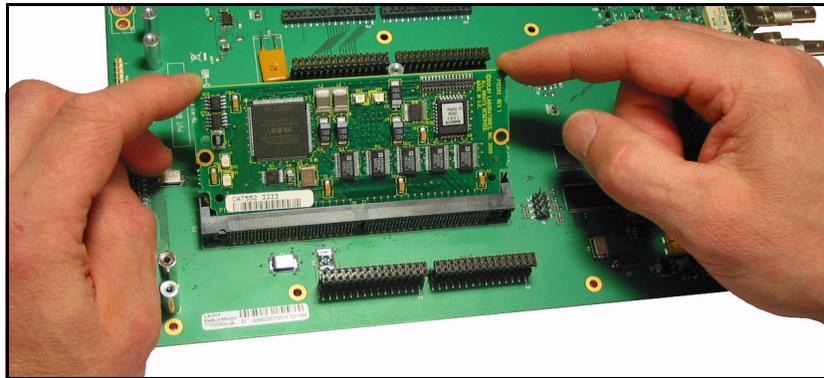

Figure 1-2. Inserting Dolby Decoder Module into Socket
6. Insert the Dolby decoder module into the socket. (See Figure 1-2 on page 6.)